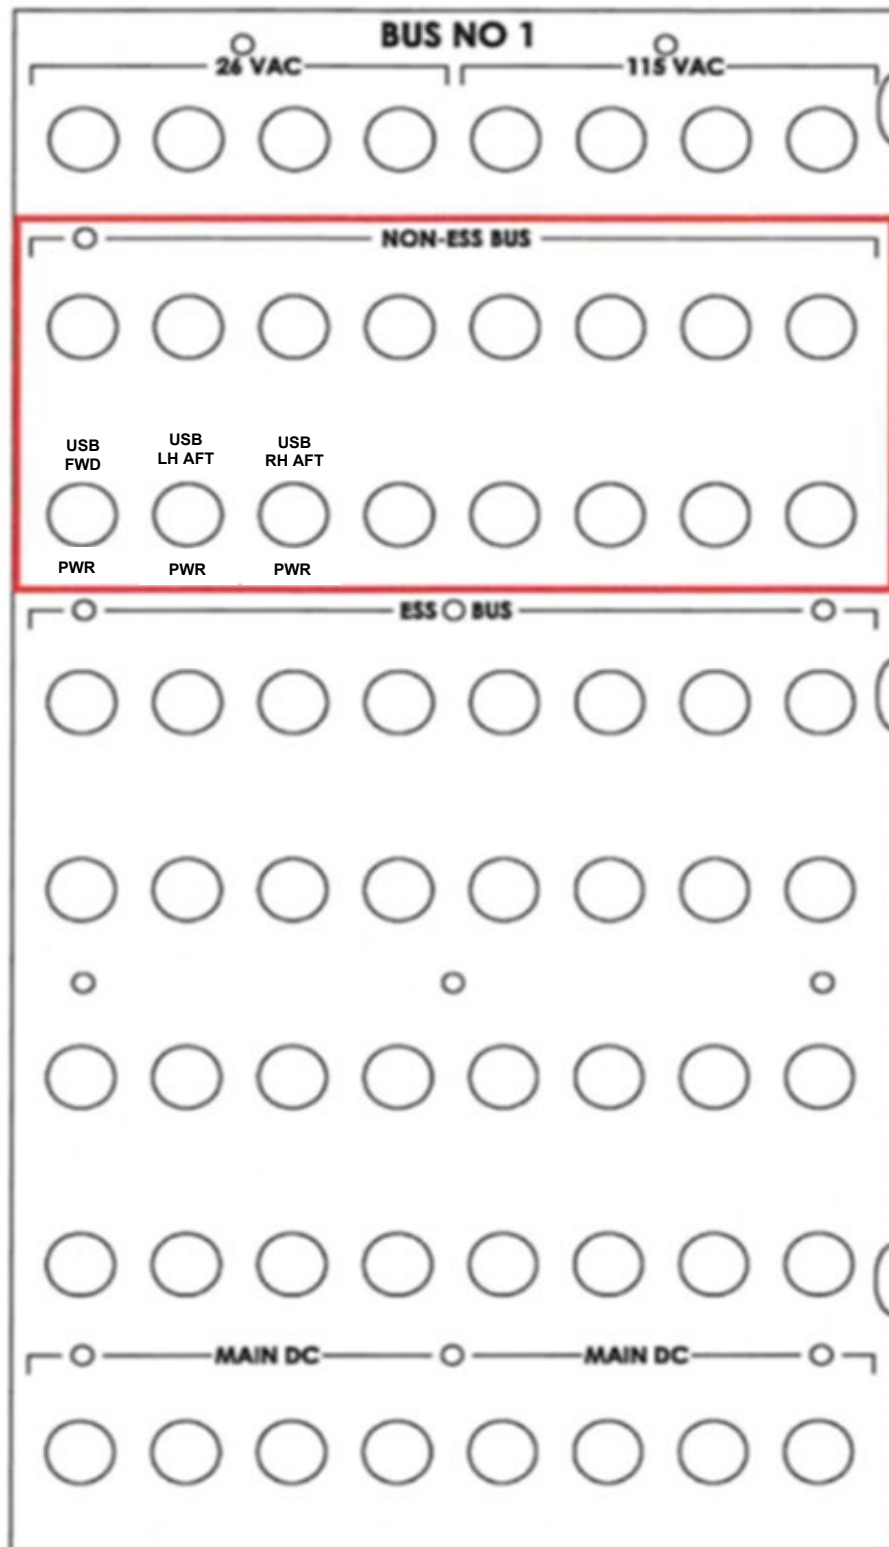

Figure 5 - USB Charger Circuit Breaker Installation
3. Install Circuit Breaker in accordance with Figure 5. The circuit breaker can be installed in any location inside the red box.
3. Install circuit breaker in accordance with Figure 5. The circuit breaker can be installed in any location inside the red box.
4. Install circuit breaker in accordance with Figure 5. The circuit breaker can be installed in any location inside the red box.